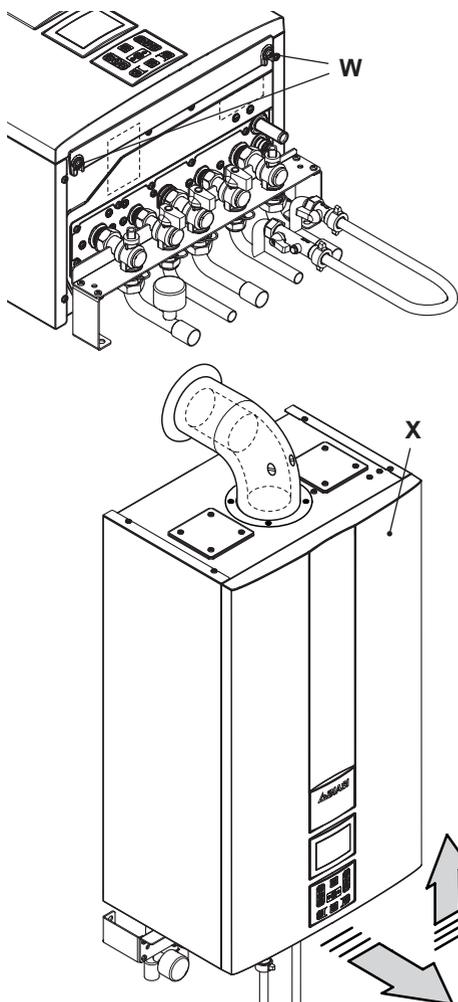

Fig. 6.15
- Unscrew screws "W" and remove the front panel "X" by pulling it and pushing it towards the top so that it is freed from the top housing Fig. 6.15.
- Identify the terminal block cover lid "X" (Fig. 6.15) and open it.